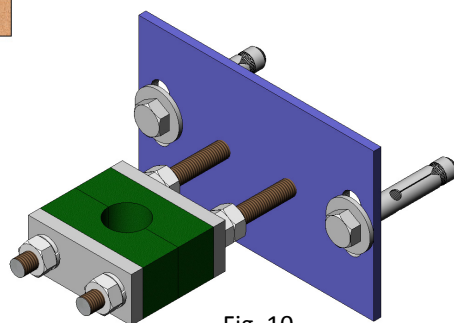

Fig. 10
- A stem support-guide (Fig. 10) is recommended every 1.5 m.